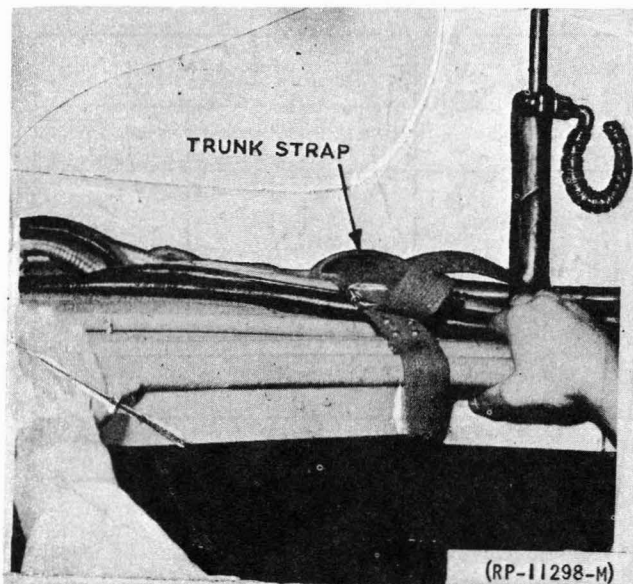

FIG. 9 BENDING POWER WIRE USING AN R-2118 TRUNK STRAP (PAR. 6.25)
6.25 Bend the wire along the arc with a second strap, moving this strap along and loosening it as the wire is bent to make a gradual curve. See Figure 9.